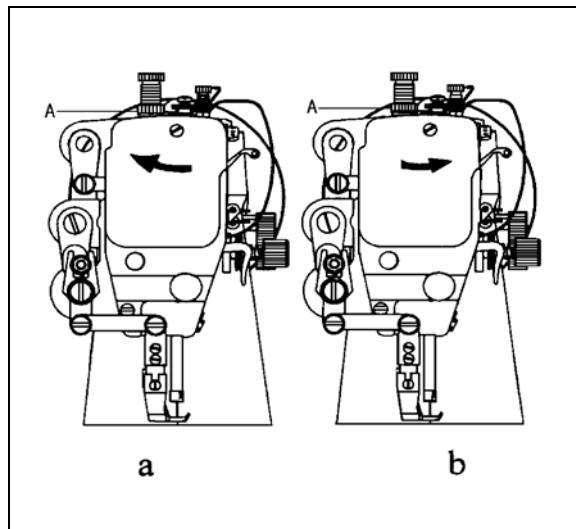

Fig. 10
11. ADJUST THE PRESSURE OF PRESSER FOOT (Fig.10)
First loosen Lock Nut (A). For heavy materials, turn the pressure regulating thumb screw as shown in Fig.10 (a) to increase the pressure, while for light materials, turn the pressure regulating thumb screw as shown in Fig.10 (b) to decrease the pressure. Then tighten Lock Nut (A).